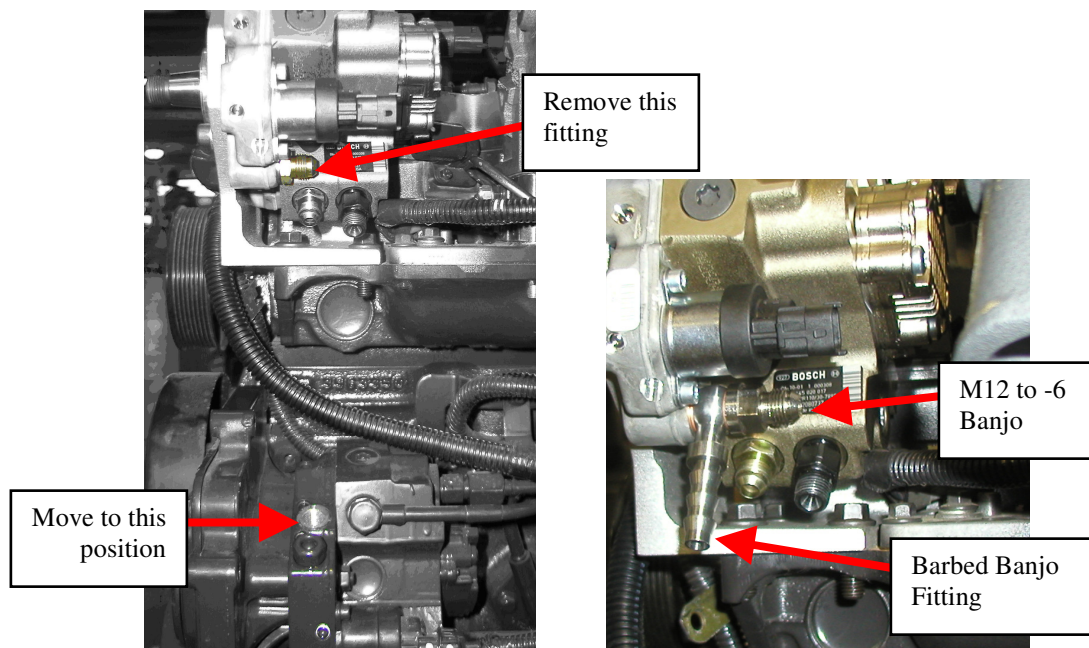

Figure 11 - Supply Line Plumbing
26. Install the new serpentine belt as shown in Figure 11. Be sure to tighten the tensioner bolt if it was removed. It is helpful to install the belt over the new idler pulley after routing to